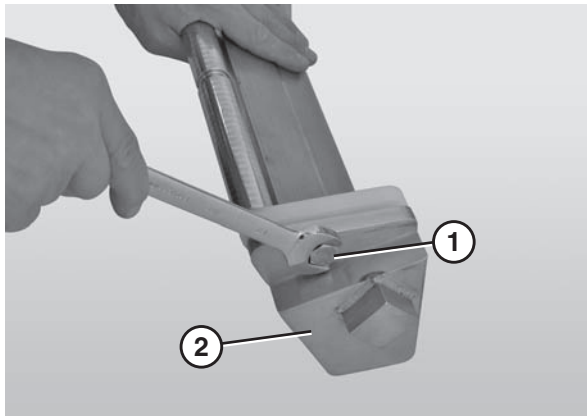

Figure 77
4. Use a 17 mm wrench to remove both pilot nose bolts (Figure 77, item 1) from the nose bar weldment (Figure 77, item 2).